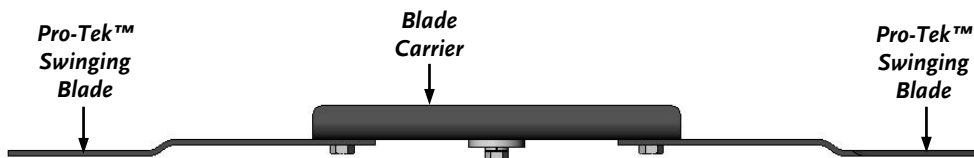

Figure 34
2. Reinstall the sharpened or a new Pro-Tek™ Swinging Blade in the orientation shown (**Figure 34**).